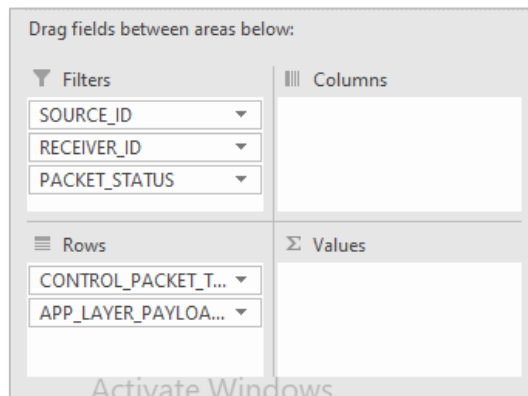

Figure 8-58: Drag and drop Slected Fields to one of the four areas below the Field List
- Drag and drop SOURCE_ID, RECEIVER_ID and PACKET_STATUS to FILTERS field, then CONTROL_PACKET_TYPE/APP_NAME, APP_LAYER_PAYLOAD to ROWS field Figure 8-58.